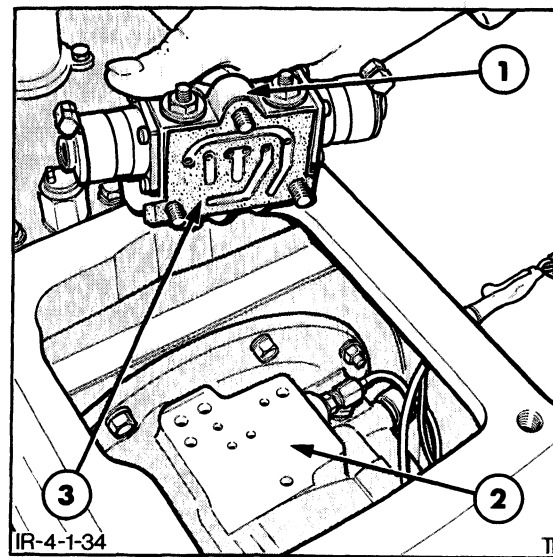

FIGURE 4-29
4. Remove the solenoid control valve retaining bolts and lift the solenoid control valve from the distributor housing, Figure 4-29.